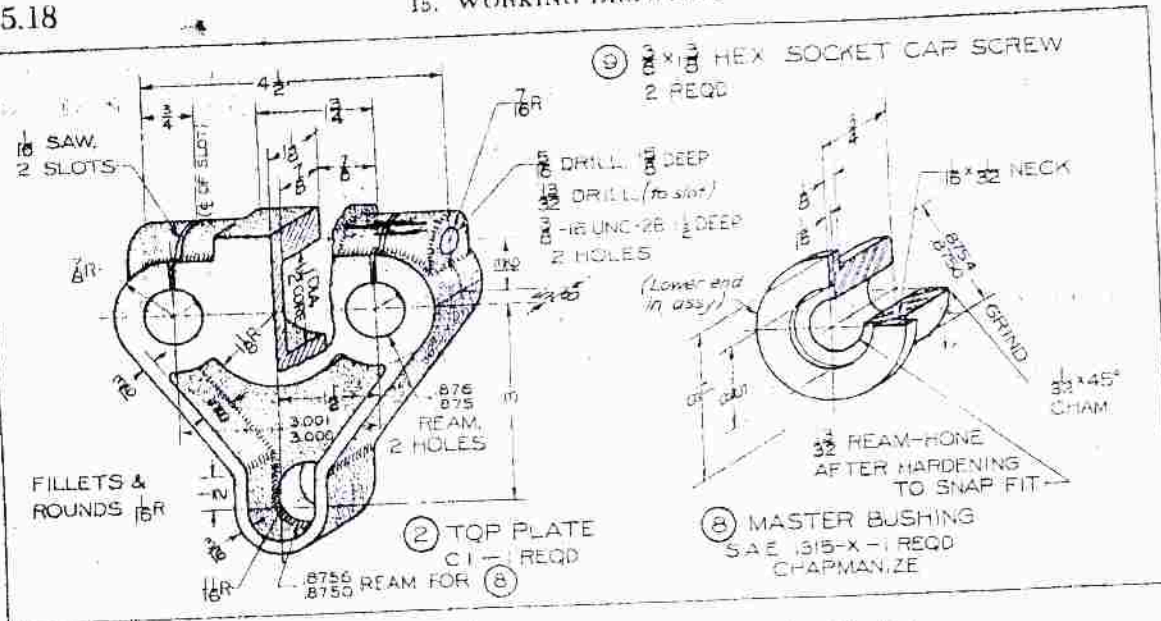
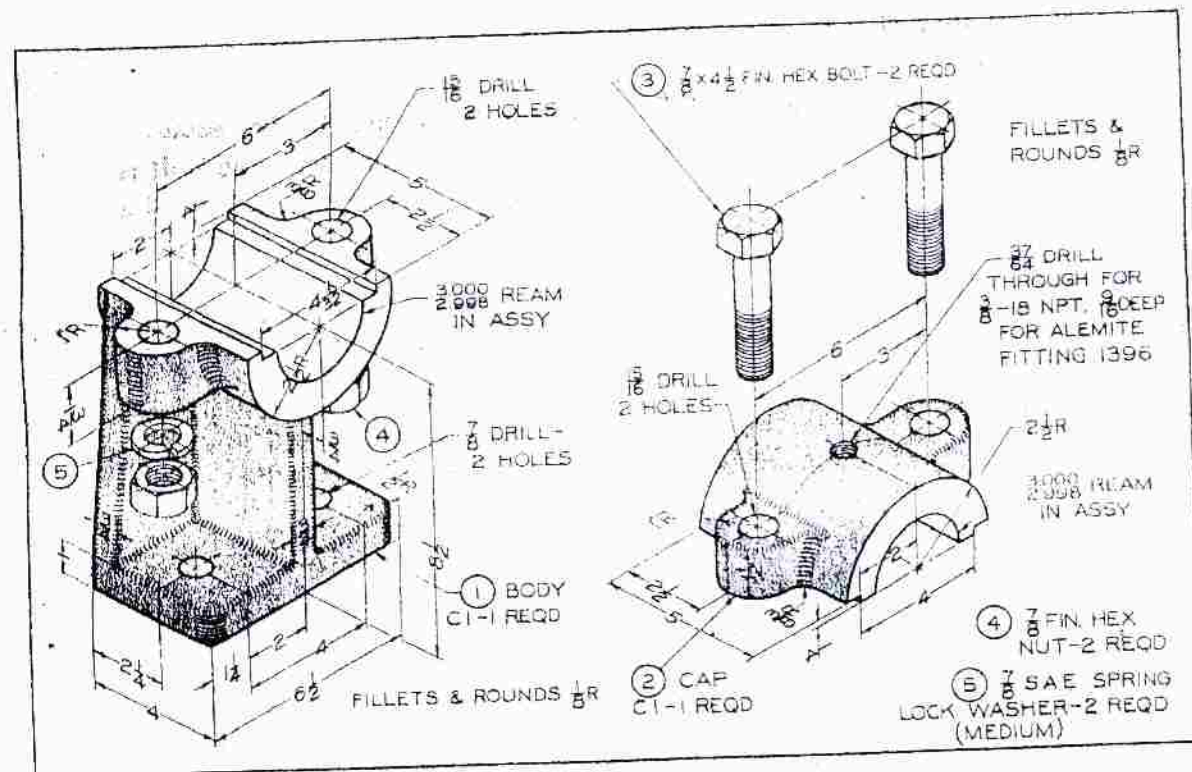

Fig. 15-48. Drilling and Tapping Jig. (See also Fig. 15-47.)
Fig. 15-49. Shaft Bearing.
- 1(a) Draw in the first angle projection, three views of the body of shaft bearing shown in fig 15-49
- 1(b) Complete the pictorial views of an assembly drawing of body (1) and cap (2) of the shaft bearing.
- 1(d) Draw in third angle projection the following views of the drilling and tapping Jig (fig 15-48)